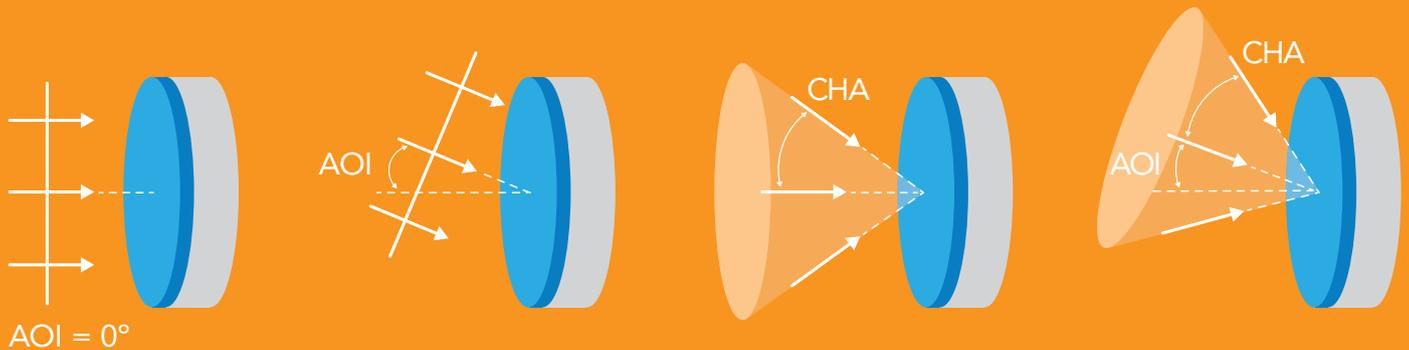

Figure 2: The difference between angle of incidence (AOI) and cone half-angle (CHA).
- › Angle of Incidence (AOI): This is the angle at which a collimated beam of light is incident on the filter, relative to the surface normal, as represented in the first two panels of Figure 2.
- › Cone Half Angle (CHA): Refers to the angular range associated with a non-collimated incident beam, as shown in the third and fourth panel of Figure 2.